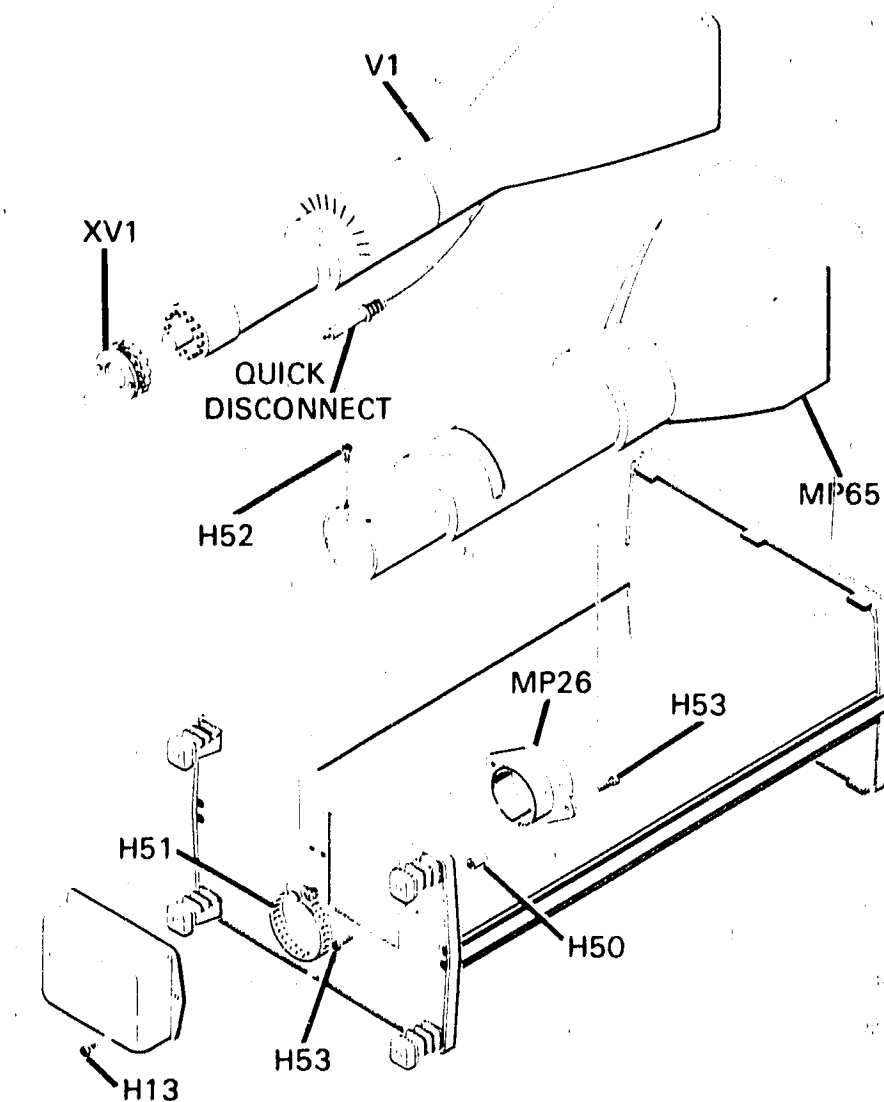

Figure 8-9. CRT Removal
k. Lift A15 and disconnect small (0) wire and large (0) wire from HV Multiplier Assembly A6.
m. To reinstall A15, reverse removal procedure; remembering to again short small (0) wire and large (0) wire from HV multiplier as in step k.
**Cathode-ray Tube Removal.** To remove the CRT, see figure 8-9 of this Service Sheet, and proceed as follows: